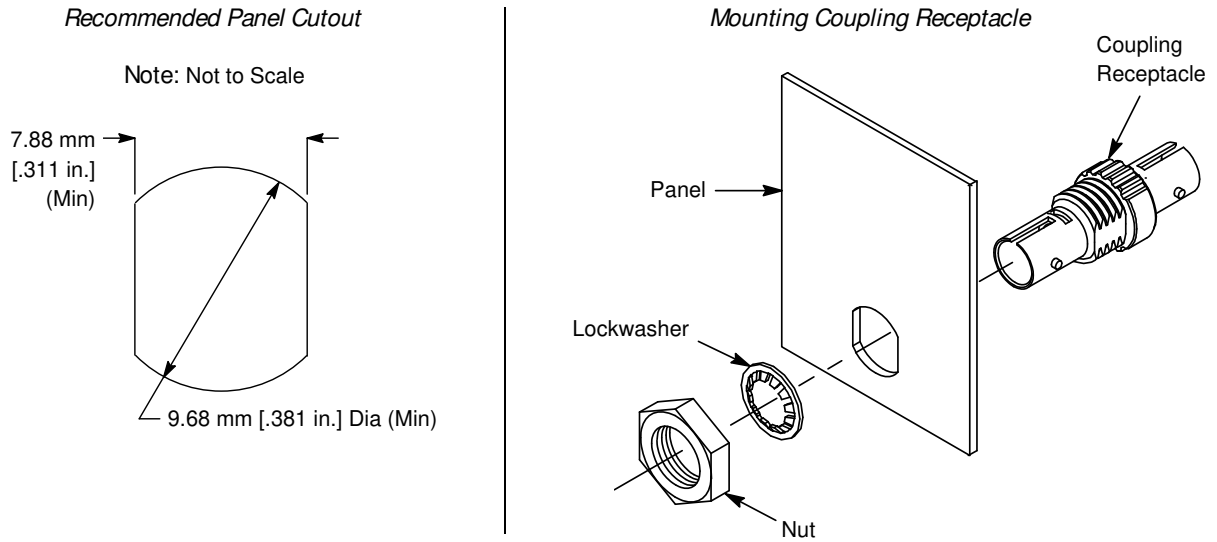

Figure 11
1. Cut out the panel according to the dimensions given in Figure 11.
2. Assemble the coupling receptacle, lockwasher, and nut as shown in Figure 11.